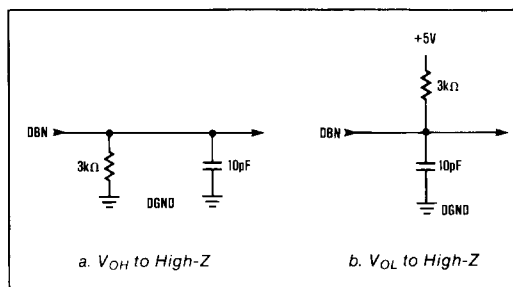

Figure 2. Load Circuits for Data Hold Time Test
**Note 4:** Outputs are loaded with circuits in Figure 2 and defined as the time required for an output to change 0.5V.